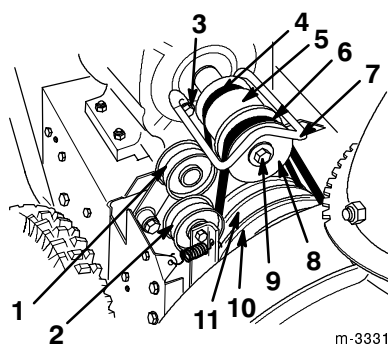

Figure 17
If the traction belt (Fig. 17) becomes worn, oil-soaked, or otherwise damaged, replace the belt. You can purchase a new belt from your Authorized Service Dealer.
5. Remove two screws, two washers, and two lock washers that secure the belt guide (Fig. 17).
6. Remove the engine crankshaft screw, lock washer, and washer (Fig. 17).
7. Separate and remove the engine pulley sheave (Fig. 17).
9. Remove the engine pulley (Fig. 17).
10. Remove the traction belt from the traction pulley and the engine crankshaft (Fig. 17).
11. Pull the traction idler pulley outward and install a new traction belt (Fig. 17).
13. Pull the idler pulley outward and loop the auger/impeller drive belt in front of the engine pulley, making sure that the belt is on the inside of the idler pulley (Fig. 17).
5. Remove the two screws, two washers, and two lock washers that secure the belt guide (Fig. 17).
8. Remove the auger/impeller drive belt (Fig. 17).
9. Pull the idler pulley outward and install a new belt around the large auger/impeller pulley (Fig. 17).